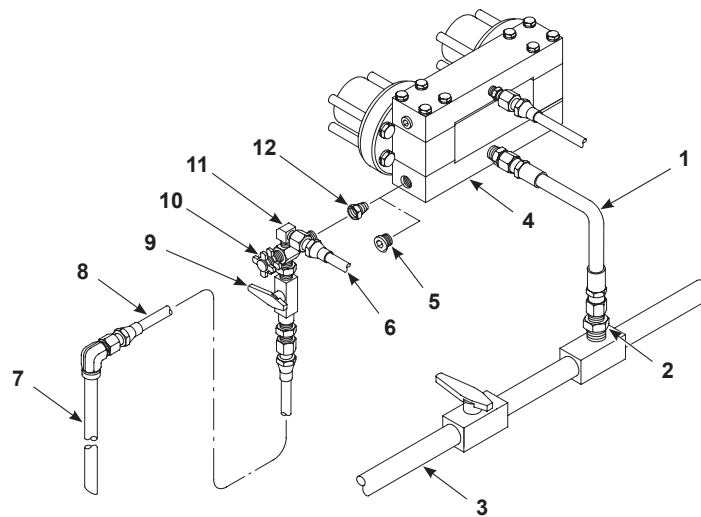

Figure 3-4 Pressure Feed and Circulation Valve Connections
1. See Figure 3-4. Install the male connector (2) provided with the pump to the pressure feed line (3).
2. To dampen vibration, install the siphon hose (1) between the siphon fitting (4) and the pressure feed line (3).
See Figure 3-4. Use the procedures below to install the optional circulation valve kit on the JP pump: